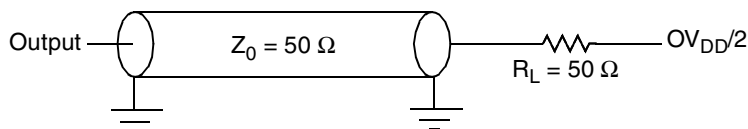

Figure 14. Local Bus C Test Load
Figure 14 provides the AC test load for the local bus.
1. All outputs are measured from the midpoint voltage of the falling/rising edge of t_{TCLK} to the midpoint of the signal in question. The output timings are measured at the pins. All output timings assume a purely resistive 50- Ω load (see Figure 14). Time-of-flight delays must be added for trace lengths, vias, and connectors in the system.
2. The symbols used for timing specifications follow the pattern of $t_{(first\ two\ letters\ of\ functional\ block)(signal)(state)(reference)(state)}$ for inputs and $t_{(first\ two\ letters\ of\ functional\ block)(reference)(state)(signal)(state)}$ for outputs. For example, t_{JTDVXH} symbolizes JTAG device timing (JT) with respect to the time data input signals (D) reaching the valid state (V) relative to the t_{JTG} clock reference (K) going to the high (H) state or setup time. Also, t_{JTDVXH} symbolizes JTAG timing (JT) with respect to the time data input signals (D) went invalid (X) relative to the t_{JTG} clock reference (K) going to the high (H) state. Note that, in general, the clock reference symbol representation is based on three letters representing the clock of a particular functional. For rise and fall times, the latter convention is used with the appropriate letter: R (rise) or F (fall).